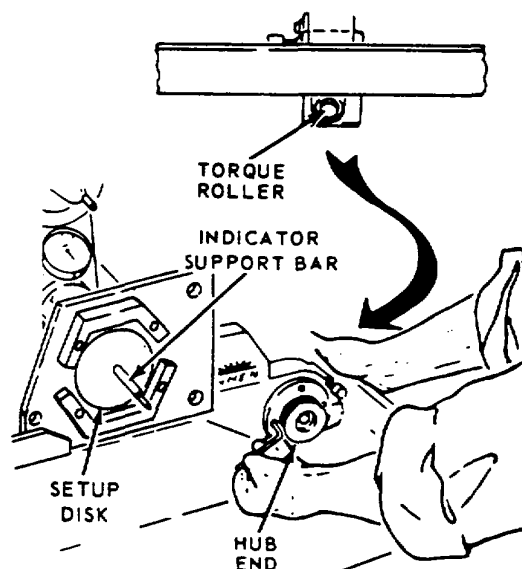
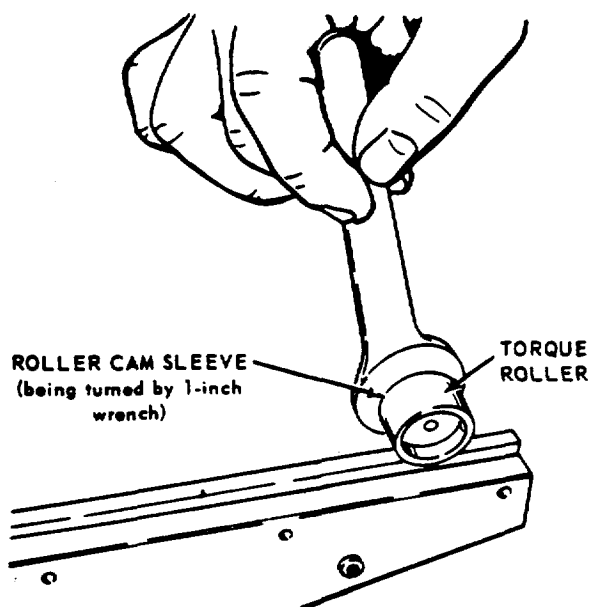

FIGURE 107
FIGURE 108
- d. See Figure 107. Loosen the four bolts in Hub End of Arm.
- (1) See Figure 108. Loosen Roller Locking Screw. Rotate Roller Cam Sleeve to position Roller at midpoint of its travel. Tighten Locking Screw.
- (3) See Figure 107. With Setup Disk over largest diameter of Indicator Support Bar, set Torque Roller shown in Figure 108 so that it is directly over the rear Rail Cam. Rotate rear Rail Cam until Rail touches Torque Roller. Position Indicator so its point is at the end of the Spindle Nose closest to the machine. Set Indicator at zero.
- (4) Sweep top of Spindle Nose and stop with Indicator point at the front of the Spindle Nose. Rotate front Cam until Indicator reads zero. Recheck, and Repeat steps (3) and (4) if necessary to make sure that Rail and top of Spindle Nose are parallel within .003 over the length of Spindle Nose.
- (5) Tighten the four Screws that attach Rail to Knee Support.
- (6) Tighten the two Cam Buttons.
- (7) Replace Honing Dial.